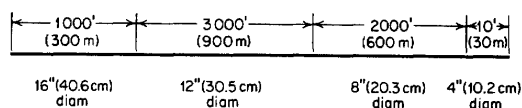

FIG. 6-3 Complex-series pipeline.
Figure 6-3 shows a complex-series pipeline made up of four lengths of different size pipe. Determine the equivalent length of this pipe if each size of pipe has the same friction factor.
For the 16-in pipe, $L_e = (1000)(7.981/15.000)^5 = 42.6$ ft. The 12-in pipe is next; for it, $L_e = (3000)(7.981/12.00)^5 = 390$ ft. For the 8-in pipe, the equivalent length = actual length = 2000 ft. For the 4-in pipe, $L_e = (10)(7.981/4.026)^5 = 306$ ft. Then, the total equivalent length of 8-in pipe = sum of the equivalent lengths = 42.6 + 390 + 2000 + 306 = 2738.6 ft, or rounding off, 2740 ft of 8-in pipe (835 m of 0.2-m pipe) will have a frictional resistance equal to the complex-series pipeline shown in Fig. 6-3. To compute the actual frictional resistance, use the methods given in previous Calculation Procedures.